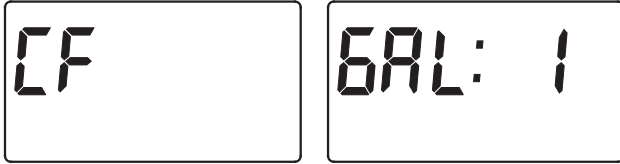

FIG. 23
4. CHEMICAL FEEDER TRIP VOLUME: If you have set the auxiliary output control to CF (Chemical Feeder), you will need to set the volume of water which must flow past the turbine before the auxiliary output is turned on. With the alternating screens in Fig. 23 shown, use the ↑ UP or ↓ DOWN buttons to set the trip volume, in gallons.